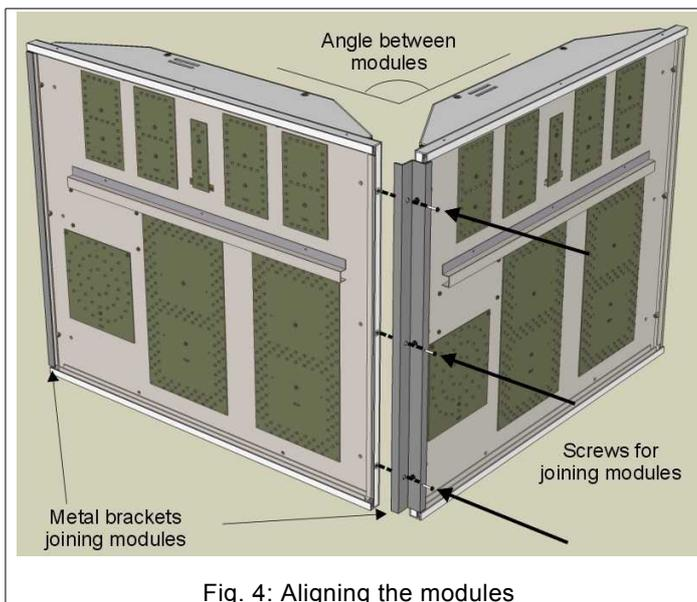
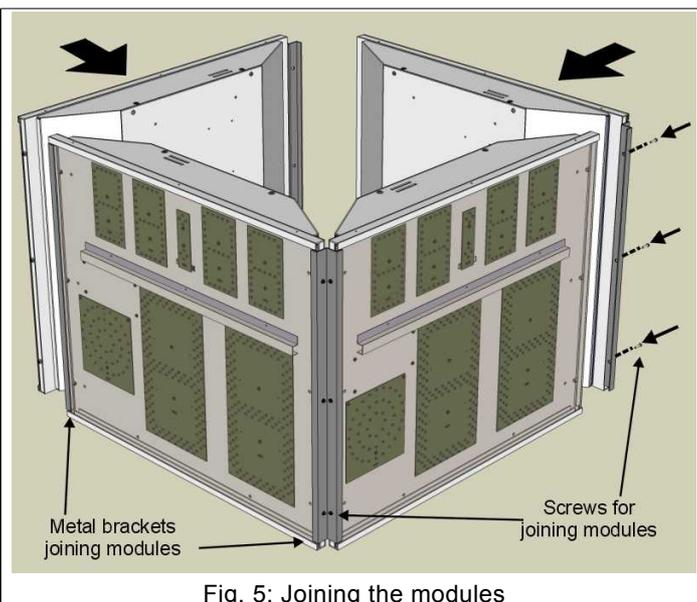

Fig. 4: Aligning the modules
Fig. 5: Joining the modules
2. Place the modules in a vertical position on the floor. Align the sides of the modules so that their edges are close together and in order to form a completed scoreboard (modules may be aligned in any order); then join the various modules by fastening the screws into the metal joining brackets (Fig. 4). The image in Fig. 5 shows the assembly of a four-sided display scoreboard.